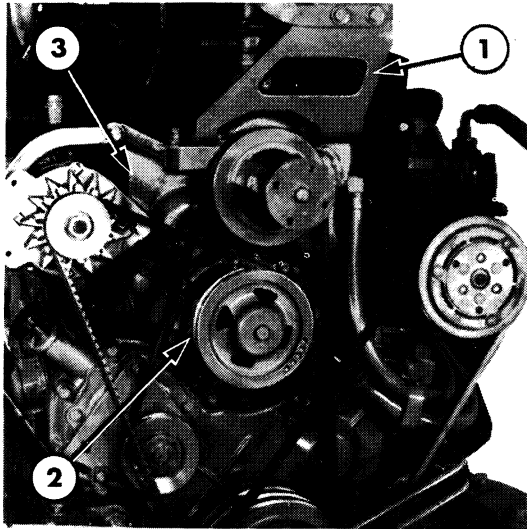

Figure 9
11. Remove the support bracket, fan and alternator bracket, and water pump as required, Figure 9.